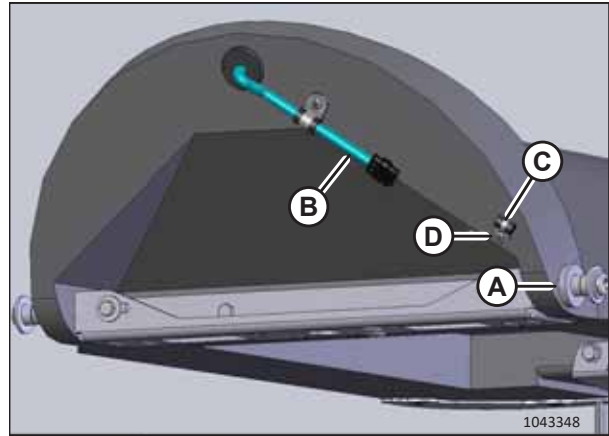

Figure 4.49: Rear Central Divider (Snout Not Shown)
10. **Headers equipped with auto header height control (AHHC) or row guidance:** Be sure that 8 mm spacer (A) is installed between the rear divider and snout on the left side of the header.
11. **Headers equipped with auto header height control (AHHC) or row guidance:** Connect the front electrical harness with rear harness (B), and then secure the harnesses to the divider and snout with P-clamps (C) and self-tapping screws (D). Move the snouts and dividers to ensure that there is enough slack in the harnesses to allow the snouts to move into transport position without contacting the gathering chains or binding between the snout and the dividers.
- For central divider, route cable as shown in Figure 4.49, page 46.